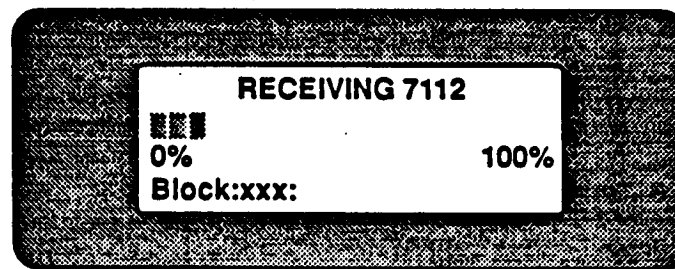

Figure 26: "RECEIVING PROGRAMMER" UPDATE PROGRESS
6. Press the white ENTER key. The programmer clicks as it dials out, and the message **WAITING for CARRIER** is momentarily displayed, followed by the message **WAITING for CONNECT to Update System** is displayed. When this handler request is detected by the Update System, the Update System transfers the requested handler. The progress of the handler reception is displayed on the programmer (see Figure 26). If the transfer is successful, the message **UPDATE SUCCESSFUL** is displayed. The cursor returns to the **UPDATE** menu. To update additional handlers, repeat steps 2 through 6.
5. Press the white **ENTER** key. The message **WRITING for CONNECT to Update System** is displayed. When this handler request is detected by the Sending Programmer, the Sending Programmer transfers the requested handler. The progress of the handler reception is displayed (see Figure 26). If the transfer is successful, the message **UPDATE SUCCESSFUL** is displayed. The cursor returns to the **UPDATE** menu. To update another handler, repeat steps 2 through 5.
6. Press the white **ENTER** key. The programmer clicks as it dials out, and the message **WAITING for CONNECT to Update System** is displayed. When this handler request is detected by the Sending Programmer, the Sending Programmer transfers the requested handler. The progress of the handler reception is displayed (see Figure 26). If the transfer is successful, the message **UPDATE SUCCESSFUL** is displayed. The cursor returns to the **UPDATE** menu. To update additional handlers, repeat steps 2 through 6.